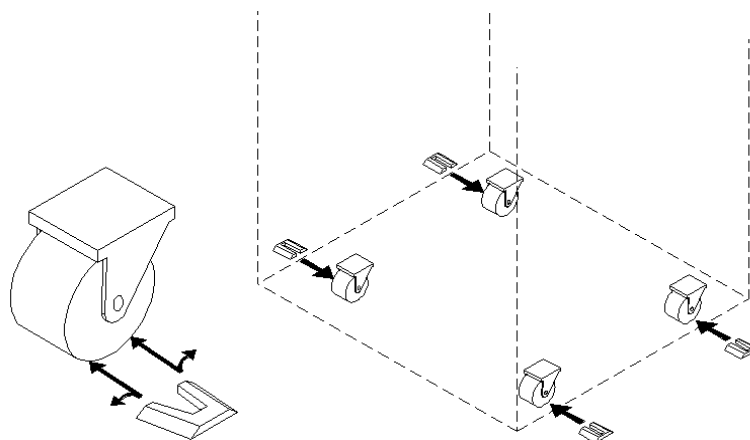

Figure 7: Installing the wheel chocks
11. Stabilize the jukebox by installing the four wheel chocks. Spread the chocks apart slightly and slide them around the bottom of each wheel (see Figure 7).